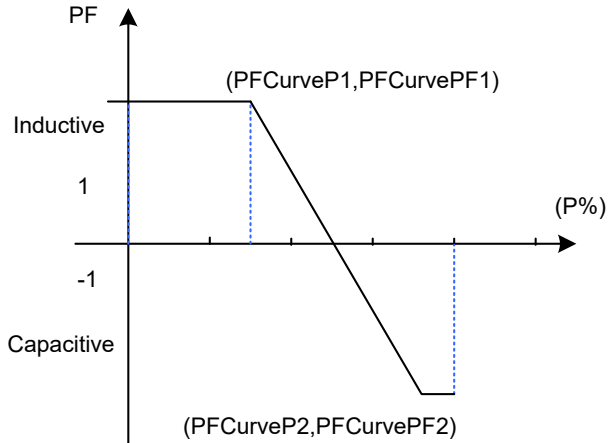

Figure 6-31 PF(P) Curve Mode
- **PF(P) Curve:** PF curve mode. Note: The power factor changes according to the power change, as shown in Figure 6-31.
Note: The reactive compensation changes according to the grid voltage change, as shown in Figure 6-31.